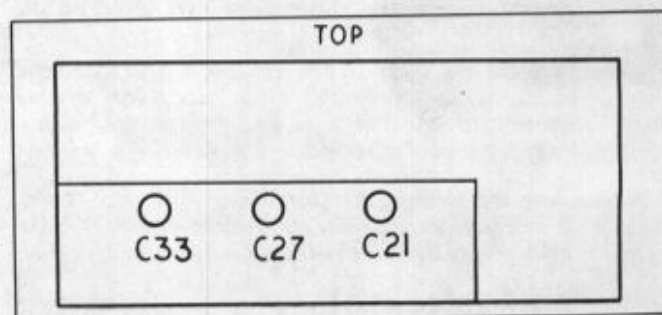

Figure 2-16. Trimmer Access Hole Locations, A1A6
2.5.30 A1A6 Assembly Adjustment (See Figures 2-16 and 2-17)